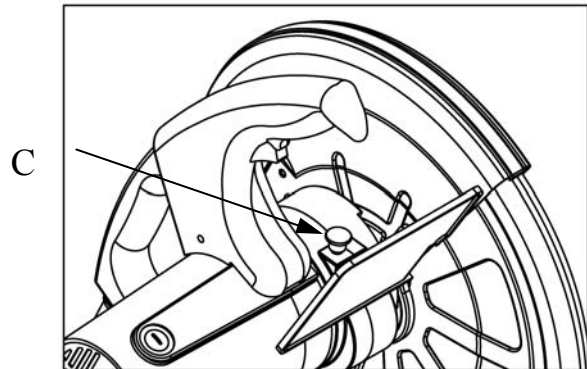

Fig.10
3. Press in on arbor lock (C) as shown Fig. 10 and rotate blade (G) by hand until the arbor lock (C) engaged.